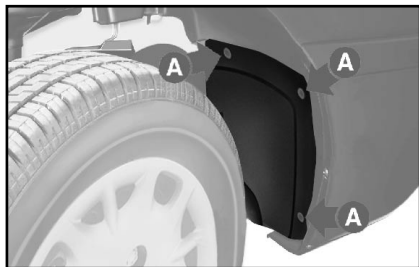

fig. 19
2) Loosen the screws **A-fig. 19** of the cover on the wheelhouse and pull the cover downwards.
8) Refit the wheelhouse cover and fix it by using screws **A-fig. 19**.